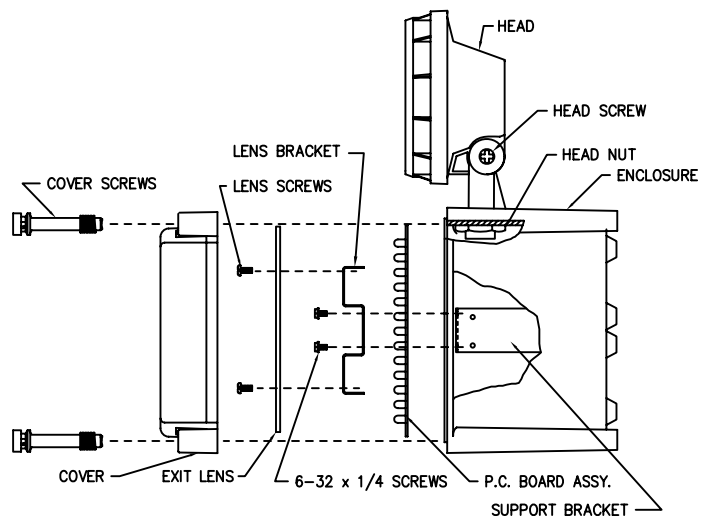

FIG. 2
2. Remove cover, exit lens, lens brackets and p.c. board assy. (Fig. 2)
12. Adjust head(s) as follows: (Fig. 2 on page 1)